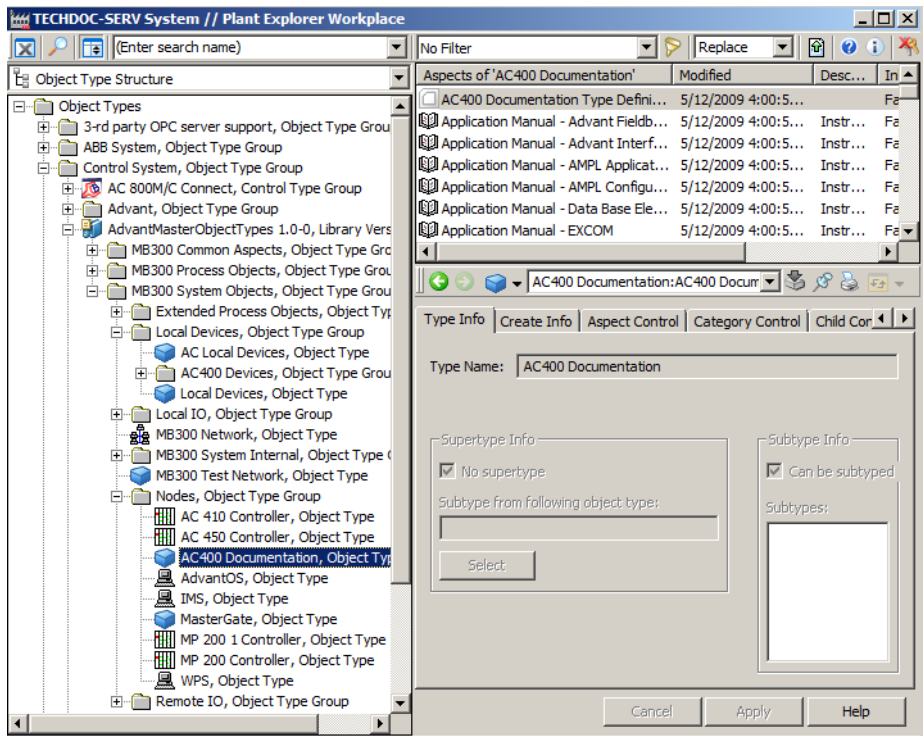

Figure 4. AC 400 Documentation Object
- The complete collection of AC 400 Series manuals can be found on the AC 400 Documentation object in the Object type structure. The manuals that do not have a related object type in 800xA for Advant Master can only be opened via the AC 400 Documentation object. See Figure 4 below.